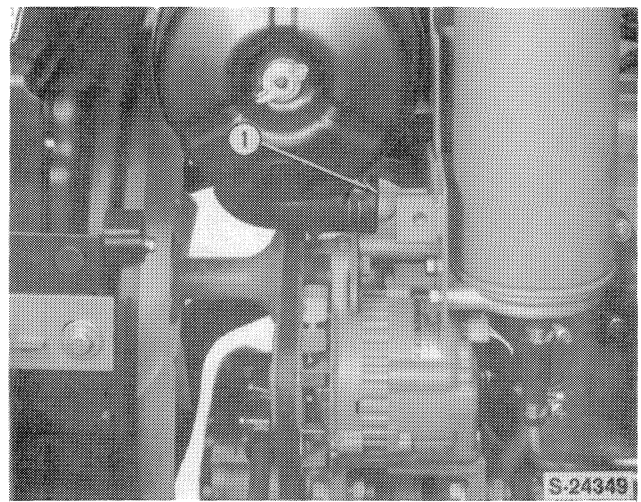

Figure 18
1. Remove the thermostat housing, thermostat and gasket, Figure 18.